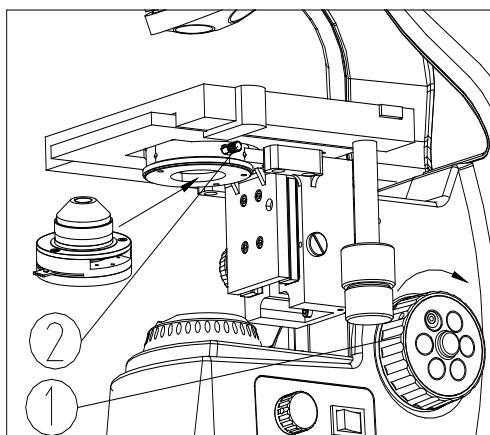

Fig. 3
1. The condenser was installed and centered by our technicians prior to delivery. If the condenser needs to be re-installed or adjusted in the future, rotate the coarse focusing knob ① to raise the stage to the highest position (see Fig. 3).
2. Rotate the condenser up-down knob ② to lower the bracket of condenser to the suitable position.
3. Fully loosen the condenser lock-screw ③.
5. Tighten the lock-screw ③ of the condenser, then raise the condenser with the up-down knob to the highest position.